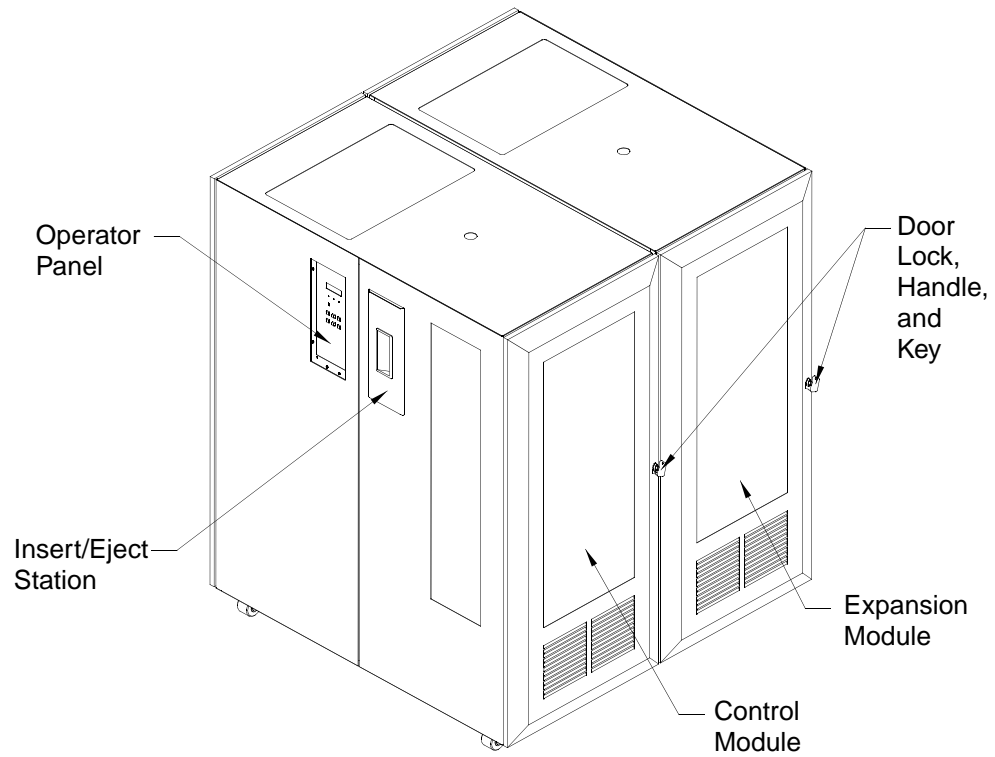

Figure 2-1 Control Module and Expansion Module
The Scalar 1000 is a linear storage library that can be expanded from a single media library to a mixed media library. The Scalar 1000 consists of a Control Module (CM) and up to three Expansion Modules (EMs). See Figure 2-1 on page 2-4. The CM contains library control hardware, the Cartridge Accessor, an Insert/Eject Station (I/E Station), an Operator Panel, cartridge storage cells, and tape drives. The EM can contain tape drives and cartridge storage.
The CM is a single module, standalone Scalar 1000 library. It contains an LCD Operator Panel, AC and DC power supplies, robot control electronics, and host interfaces. It can be attached to an EM to create an expanded Scalar 1000 library. See Figure 2-1 on page 2-4.
The EM extends the length of the aisle and adds drives and cartridges to the library. The Scalar 1000 maximum configuration includes three EMs. These modules extend the X-rails (top and bottom) which allow the Accessor to travel the length of the library. See Figure 2-1 on page 2-4.